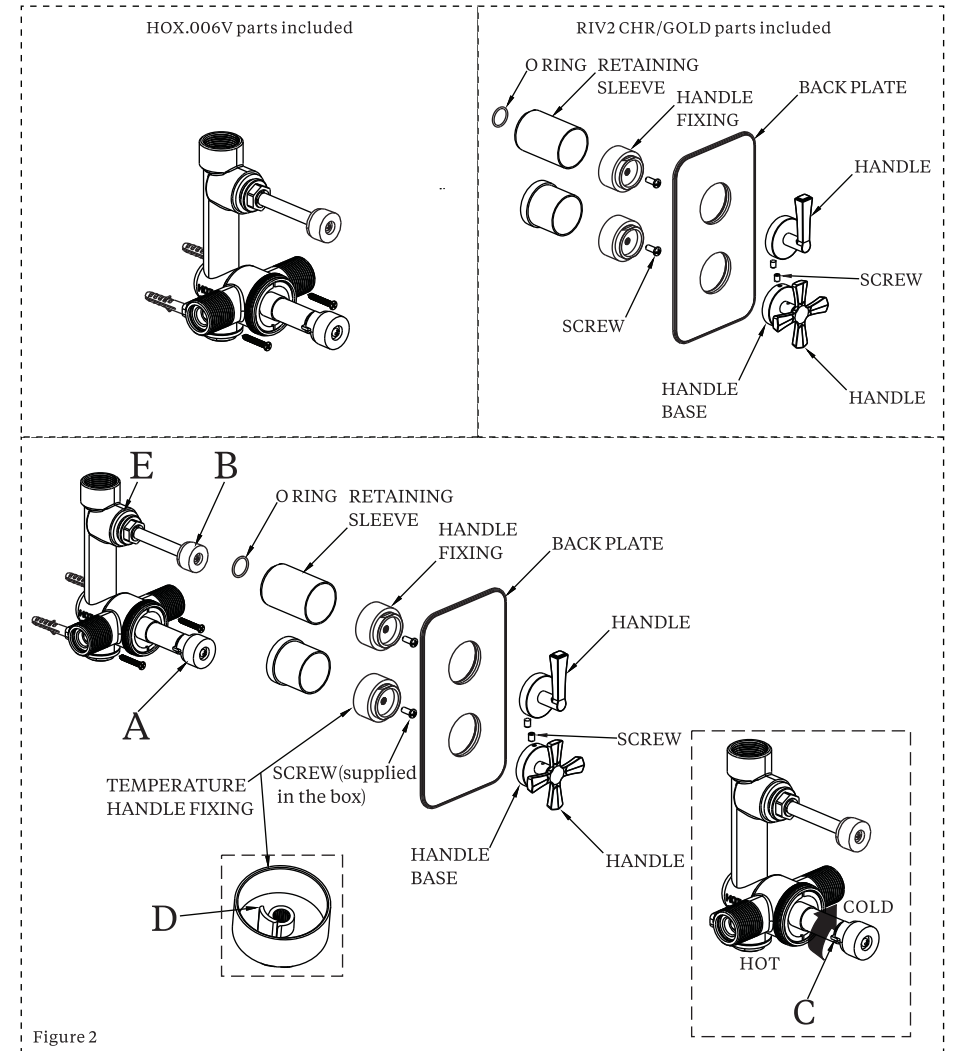

Figure 2
2. Parts should be assembled in sequence illustrated by Figure2.
- 3 ) Without any move at the spindle, replace the metal block so that limit stop up to the right hand side of the limit stop on the cartridge. (See Fig 2)